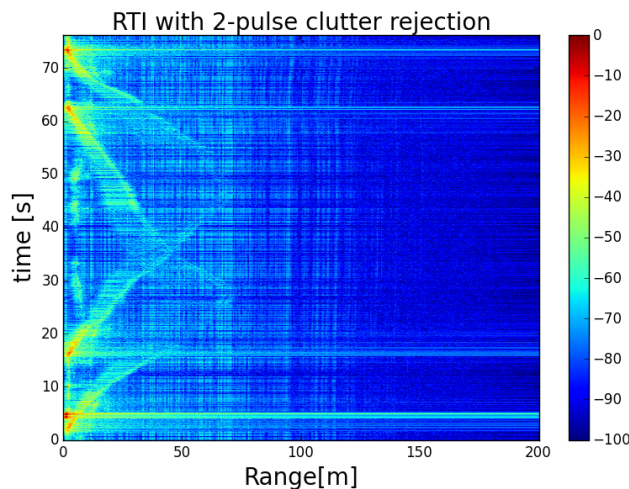

Figure 8: Range-Time-Intensity (RTI) plot of the measurement data in “running_outside_20ms.wav”.
5. A Python script "range_wav.py" is available at this link (https://github.com/ucdart/UCD-EEC134/blob/master/labs/lab6/code/range_wav.py) to process the recorded .wav file. An example .wav file named "running_outside_20ms.wav" can be analyzed for you to get an idea of the expected outcome. Fig. 8 shows the range-time-intensity (RTI) plot of the data in "running_outside_20ms.wav". You can see two objects (people) walking away from and back to the radar.